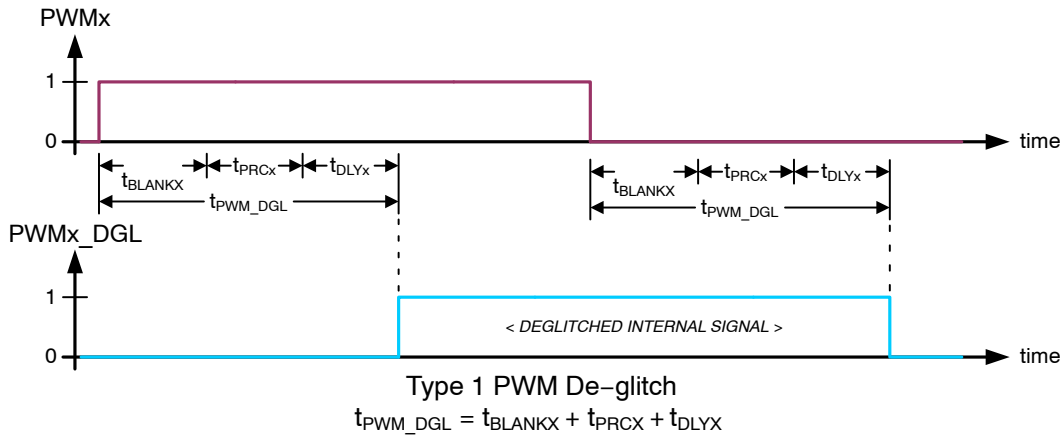
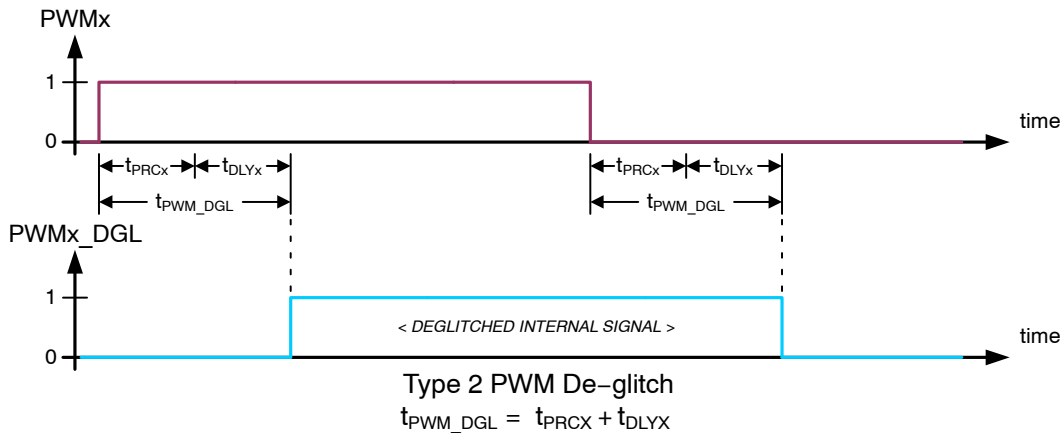

Figure 10. Type 1 PWMx Input De-glitch - CR14.DGLx = 0
Figure 11. Type 2 PWMx Input De-glitch - CR14.DGLx = 1
When multiple PWMx inputs are needed to be active, the scheduled PWM signals should be offset in time to avoid degradation of the VDS overload detection due to crosstalk (see § *Overload Protection*). The minimum offset should be based on the t_{PWM_DGL} times appropriate for the respective channels (see § *Switching Behavior of Half-bridge Drivers*, Figure 10 and Figure 11).
- adaptive PWM input de-glitch construction when in half-bridge configuration is selected by DGLx[6:0] bits (see Figure 10, Figure 11, Table 21 and Table 22).
When operating HB1...HB7 in PWM mode and in half-bridge configuration, type 1 de-glitch is selected when CR14.DGLx = 0 (see Figure 10) and the adapted time is given by:
Type 2 de-glitch is selected when CR14.DGLx = 1 (see Figure 11) and the adapted time is given by:
- the $PWMx_DGL$ resulting from the channel's operating configuration (see § *Switching Behavior of Half-bridge Drivers*, Figure 10 and Figure 11);